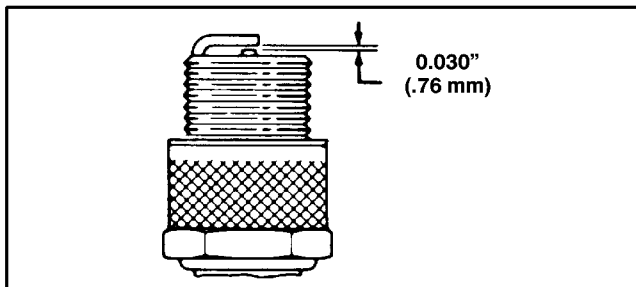

Figure 18
3. Set air gap at 0.76 mm (0.030") (Fig. 18). Install correctly gapped spark plug and gasket seal. Tighten plug firmly to 19 N·m (14 ft-lb).